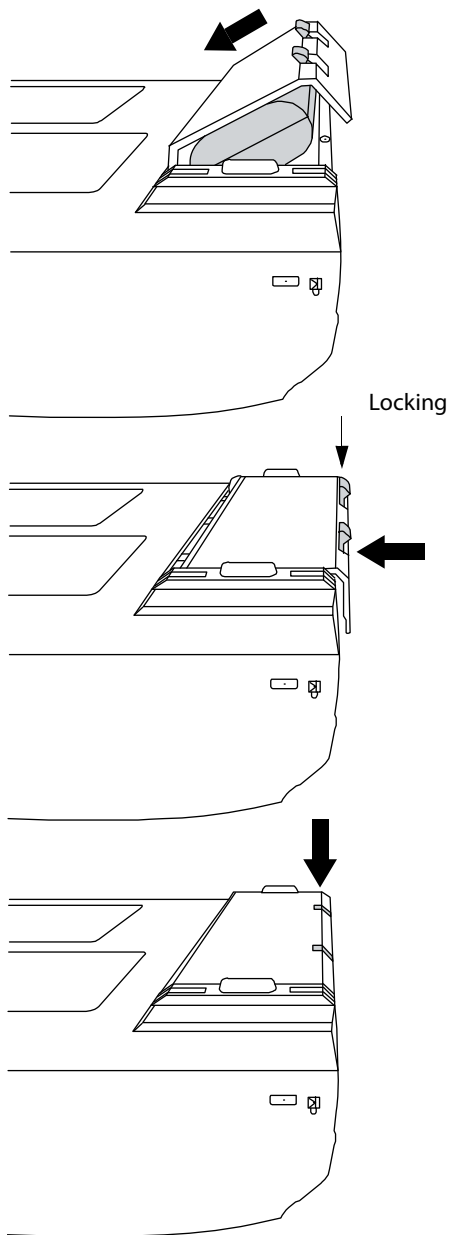

Figure 3 Install the Battery
- 3 Place the battery into the battery compartment, at a slight angle. See Figure 3.